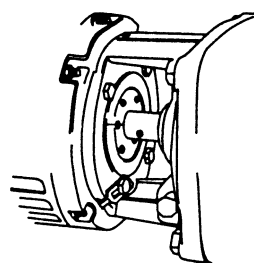
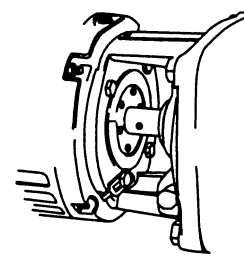

Fig. 3
Fig. 4
A drag will be readily detected indicating the impeller is in contact with the raceway. At this point mark the pump frame and adjusting screw across one of the punched holes in the adjusting screw as illustrated in (Fig. 3).
4. Reverse that rotation of the adjusting screw to provide clearance between the impeller and raceway. For proper clearance under working pressure this reverse rotation of the adjusting screw should be approximately one-half the distance between two spanner wrench holes in the adjusting screw. This distance can easily be determined if a mark is made on the frame and adjusting screw at the point where the drag is felt (Fig. 3) and then measurement taken from the mark to make the proper adjustment (Fig. 4).